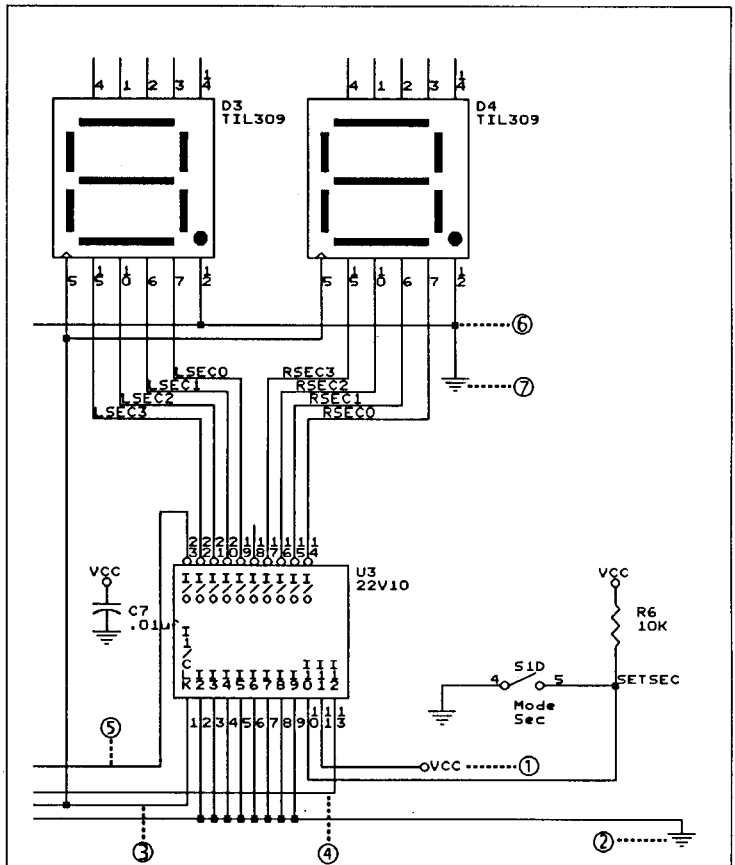

Figure 6-4. Seconds area of the clock logic. The callouts refer to the step numbers in this section.
The following steps correspond to the callouts in figure 6-4. Before you begin, move the pointer to the rightmost 22V10, and select **ZOOM Select 1**.
1. The horizontal wire from the 22V10's pin 11 should be shortened. Referring to the ① in figure 6-4, delete the wire and redraw it so that it is only six or seven grid spaces long.